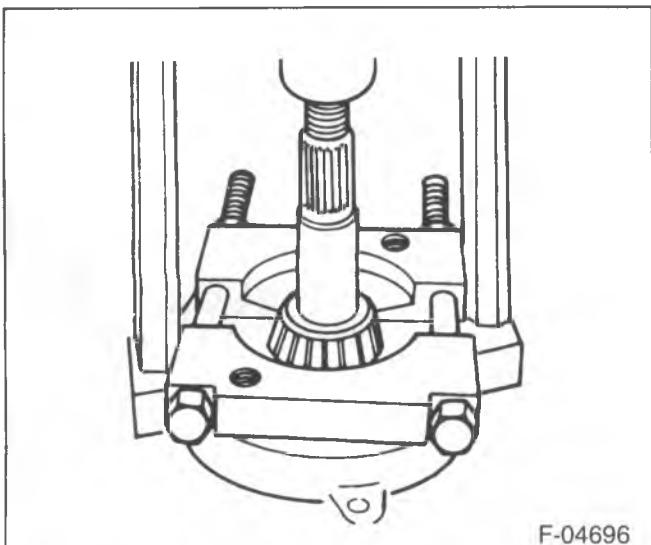

Figure 8—Removing the Pinion Rear Bearing
- Remove the cover (25) and the pinion (15).
19. Collapsible spacer (11) from the pinion.
20. Outer seal (9) and outer pinion bearing (10).
21. Inner bearing (13) and shim (14) from the pinion.
- Press the bearing off the pinion using J 22912-01 (figure 8).
22. Bearing cups (10) and (13) from the axle housing using a hammer and a punch.